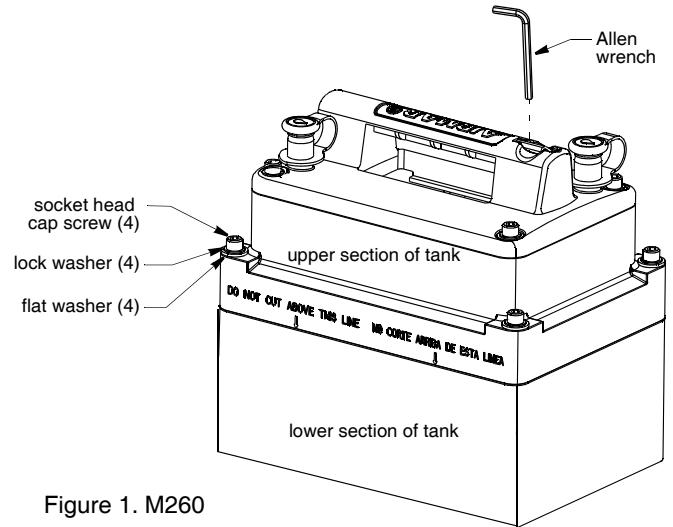

Figure 1. M260
1. The tank can be disassembled for installation in tight places. *Do not disassemble the tank unless it is necessary.* If the tank will be installed as one unit, lightly tighten the socket-head cap screws that hold the two sections of the tank together with a force not exceeding 50 in.-lb. (see Figure 1). Use the Allen wrench supplied. **Do not over tighten.** (To remove the Allen wrench from the handle of the transducer, use a blade screwdriver. After use, replace the Allen wrench in the recess.)
5. If the tank is being installed in two parts, reattach the two sections now (see Figure 1). Be sure the O-ring gasket is in place around the lip and lubricated. Screw the two sections together using the socket-head cap screws, lock washers, and flat washers supplied. Use the Allen wrench to tighten the screws with a force not exceeding 50 in.-lb. **Do not over tighten.**